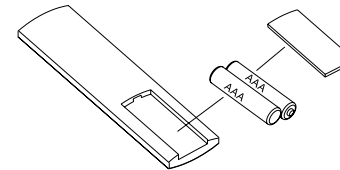

Fig. 2
1. Place two AAA batteries to use the remote controller. (As shown in Fig. 2)